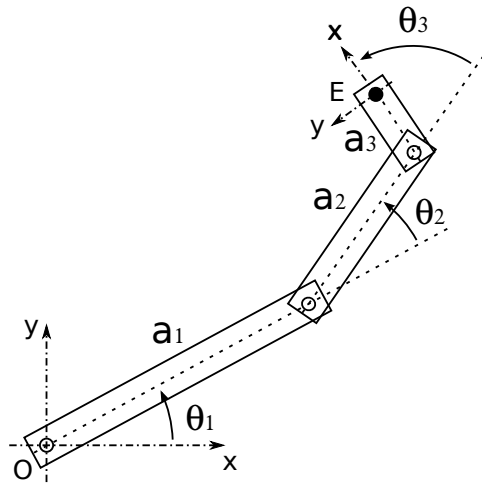

Figure 1: Three joint planar robot arm.
1. Consider the three-DOF planar robot arm given in Figure 1, which consists of three links with lengths a_1 , a_2 and a_3 connected with three revolute joints θ_1 , θ_2 and θ_3 . Derive the planar (2D) forward kinematics for this arm to compute the position and orientation of the end effector frame E relative to the fixed inertial frame O as a function of the joint angles θ_1 , θ_2 and θ_3 as defined in the figure. In other words, find a function $f : S^1 \times S^1 \times S^1 \rightarrow SE(2)$ such that ${}^O T_E = f(\theta_1, \theta_2, \theta_3)$, where the homogeneous transform ${}^O T_E$ maps points in frame E to points in O . Explain your work.
5. Consider the robot structure shown in Figure 1 with $a_1 = 0.75m$, $a_2 = 0.5m$ and $a_3 = 0.2m$. Write a Matlab script (`hw2_script2.m`) to first use Corke's Matlab toolbox to construct a serial link manipulator model with these parameters, then animate the robot following the desired path from the previous question, using the inverse kinematic equations you have derived in the second question above. You should only use Corke's toolbox to visualize the robot and not for any of the interpolation and inverse kinematics functions. Note that your work in this question will help you debug your inverse kinematics derivations.